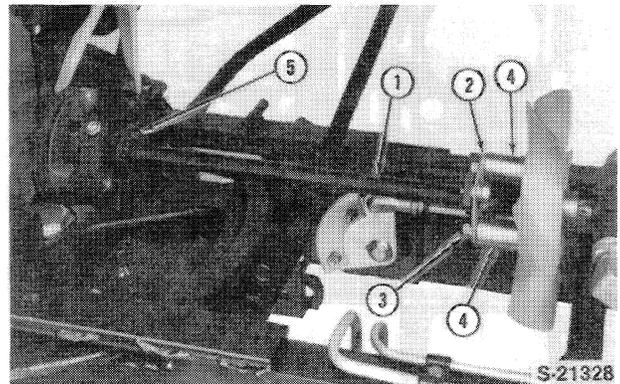

Figure 19
- 23. From under the tractor, remove the two transmission drive shaft coupling bolts (3) and spacers (4), Figure 19.
- 24. Remove the transmission drive shaft by sliding the shaft rearward to disengage the spline drive to the crankshaft pulley coupling (5).